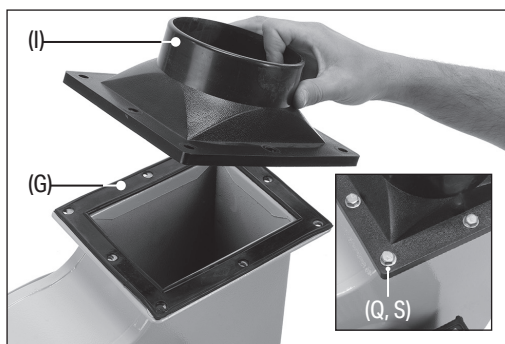

Fig. 4
4. Assemble the hose outlet (Fig. 4):
- a. Place the gasket (G), ridged side up, and the hose outlet (I) onto the square opening so that the holes align.
- b. Pass eight M8 x 16mm bolts (Q) each through a washer (S) and down through the assembly, then tighten them securely.